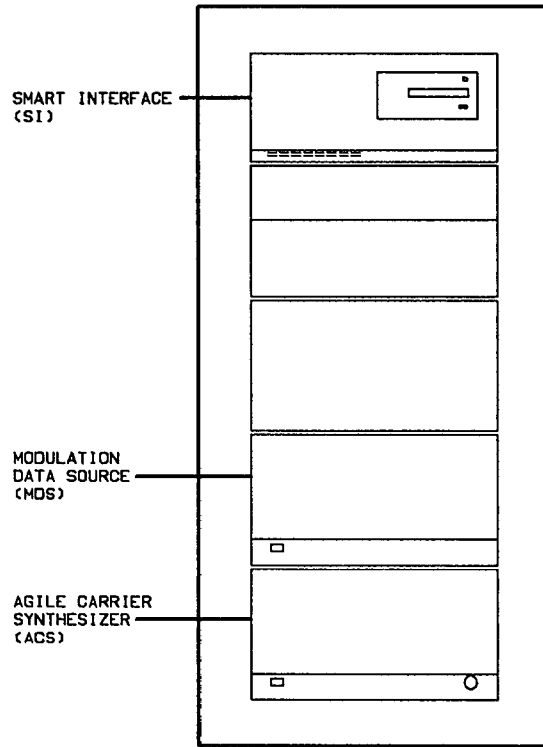

Figure B-1. HP FASS Model 7 Front Panel
- HP FASS Model 7 system figures B-1 and B-2.